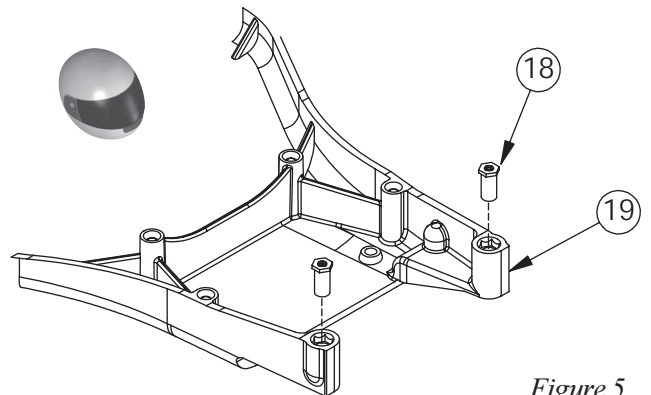

Figure 5
❑ 1. Install a Threaded Insert (18) into the top of each of the two forward holes in the main Chassis (19). The inserts should be installed with the hex-side up as shown in Figure 5. Press the Threaded Inserts all the way into the holes in the Chassis, lining up the hex on the inserts with the hex in the holes.